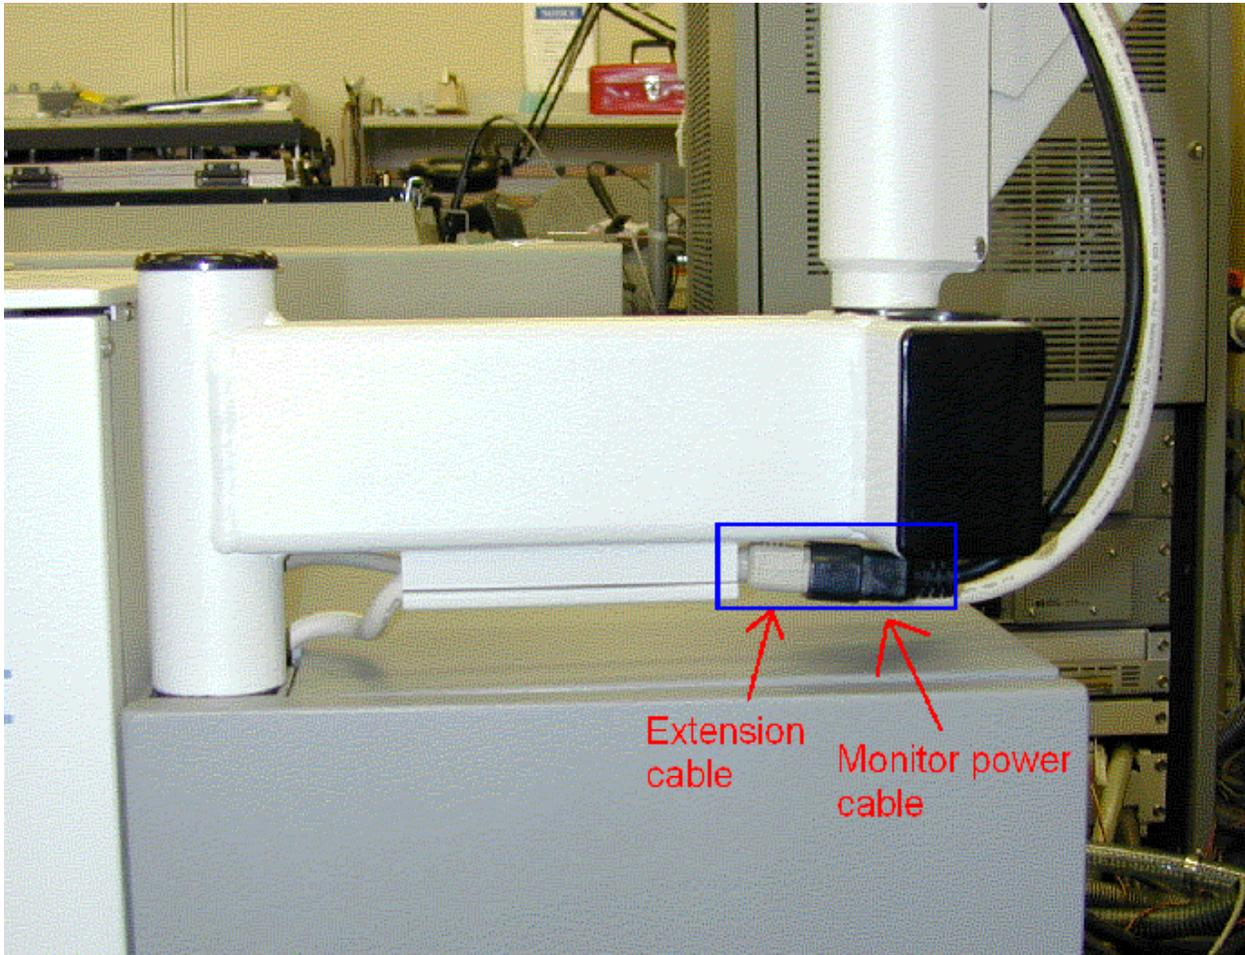

Figure 1.
1. When connecting the monitor power cable to the PDU extension cable, insure that the connection is made at the base of the Support Arm T-piece, not within the PDU pod (see figure 1 below).